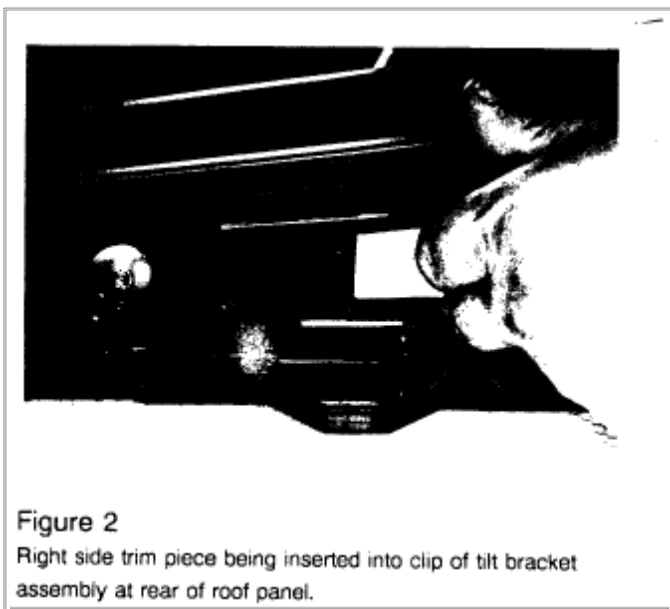

Figure 2
8. Slide rear of trim piece into clip on tilt bracket assembly until fully engaged (Figures 2 - 3).